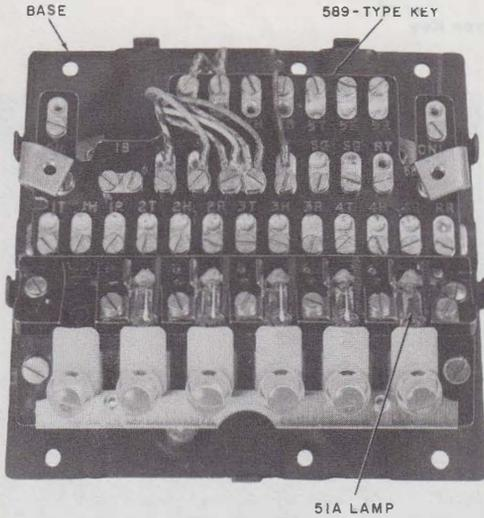

Fig. 6—6041-Type Key, Internal View
**3.07** *6041-Type Keys* may be mounted to wall or other vertical surface. The key cable and telephone wiring are connected directly to the terminal strip (Fig. 6).